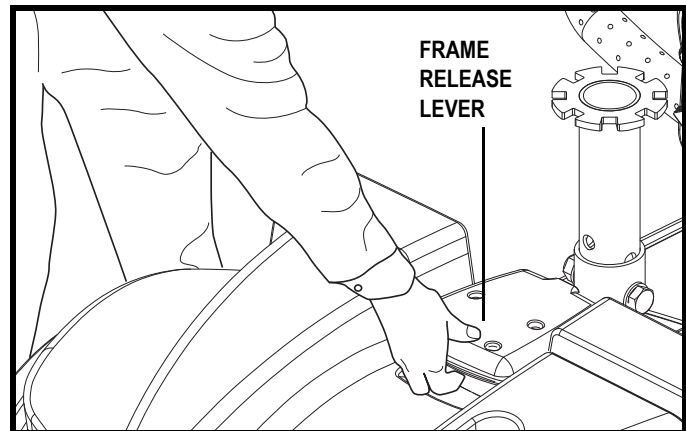

Figure 21. Frame Release Lever
3. Grasp and lift up on the frame release lever. **See figure 21.**